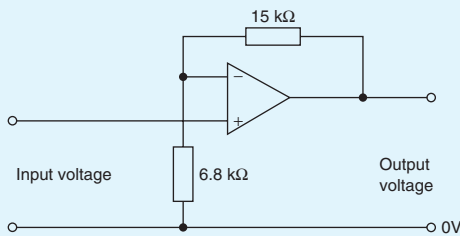

Figure 19.18
- If the input voltage for the op amp shown in Fig. 19.18, is -0.5 V , determine (a) the voltage gain (b) the output voltage